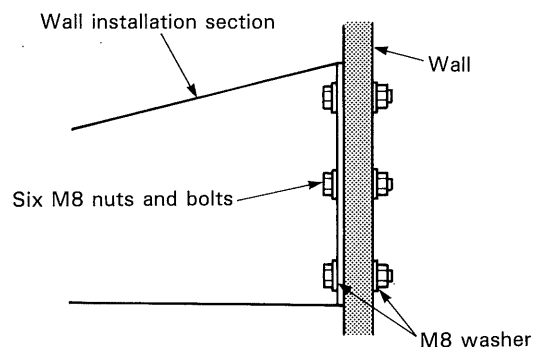

Figure 2
- 2** After removing the nut and bolt that hold the two sections of the bracket together, use six sets of M8 bolts and nuts and 12 washers to install the wall installation fixture on an adequately strong wall. Tighten the nuts and bolts firmly. (Figure 2)